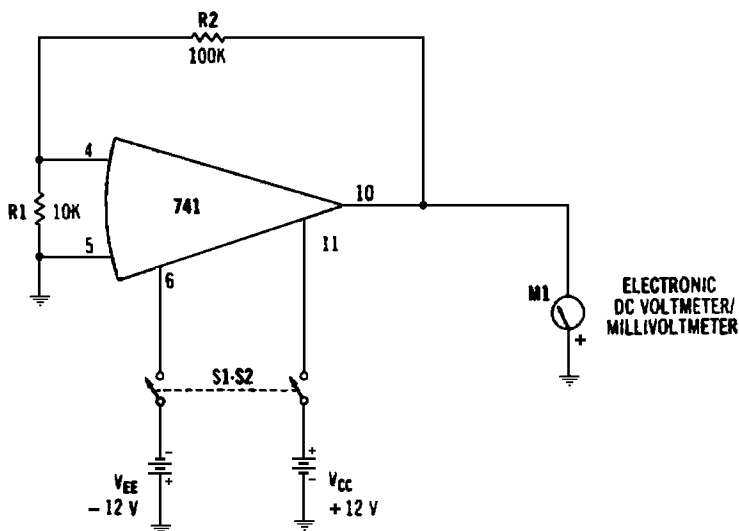

Fig. 2-3. Output offset voltage.
### Required Equipment (Fig. 2-3)
1. With switch S1-S2 open, set up the test circuit as shown in Fig. 2-3.